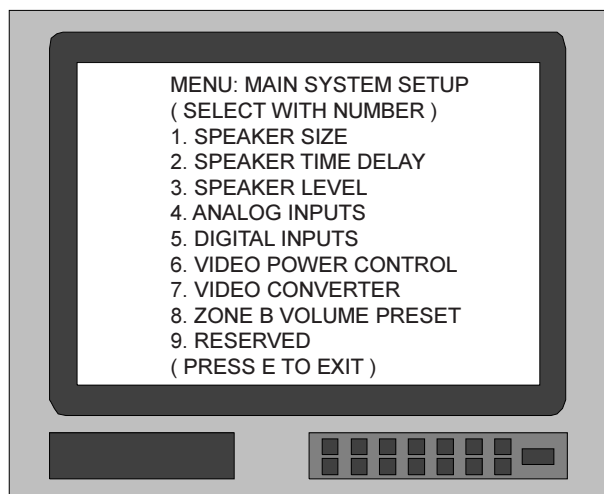

Figure 6
1. Press and hold the front panel Setup pushbutton approximately three seconds to enter the Setup Mode. The SETUP pushbutton will illuminate, the word SETUP will appear on the front panel display and the MAIN SYSTEM SETUP MENU will appear on the Monitor/TV screen. Refer to Figure 6.
1. Press and hold the front panel Setup pushbutton approximately three seconds to enter the Setup Mode. The SETUP pushbutton will illuminate, the word SETUP will appear on the front panel display and the MAIN SYSTEM SETUP MENU will appear on the Monitor/TV screen. See Figure 6.